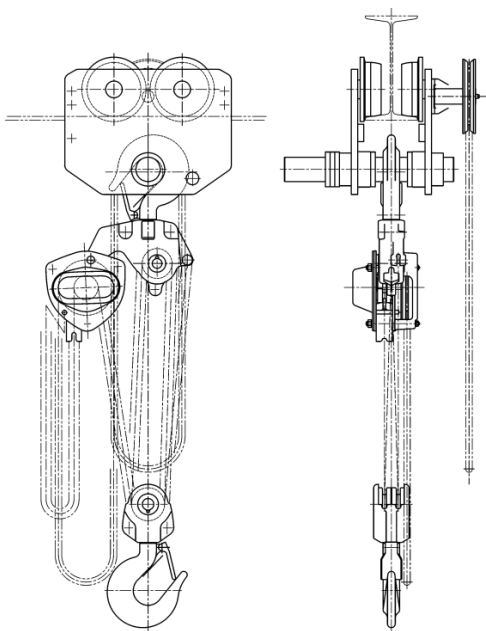

Figure 3-5 8-10 Ton CB mount
- 3.1.3 For 8 and 10 Ton capacities, Harrington's Model CB Series chain hoists is hook mounted directly to the suspension shaft of the TF/TS Trolley as shown in **Figure 3-5**. Since the hoist is directly hook mounted, no additional hoist preparation is necessary. See **Section 3.4** for more information on trolley assembly.